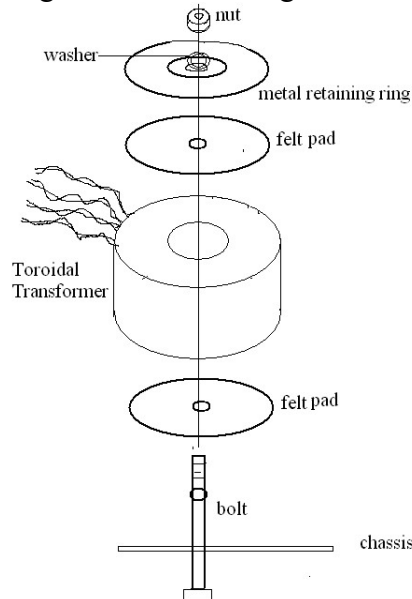

Figure 45-Toroidal Transformer Mounting
4. Mount the toroidal transformer to the chassis using the hardware shown in Figure 45. Orient the toroid and power wiring as shown on the front cover of this manual. Make sure the mounting hardware and toroid are centered before tightening the mounting bolt. Make it snug, but do not over-tighten.